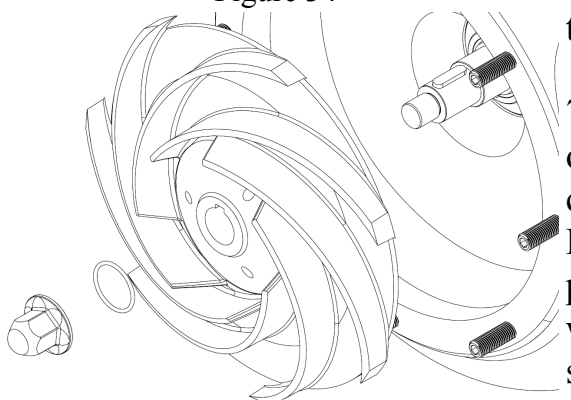

Figure 35
6. Install impeller and impeller key, if it is not already in the stub shaft figure 35. Note driving pins in impeller hub will go into the large slots in the front of the single seal driver. Replace the impeller nut gasket and impeller nut and torque to the correct value.